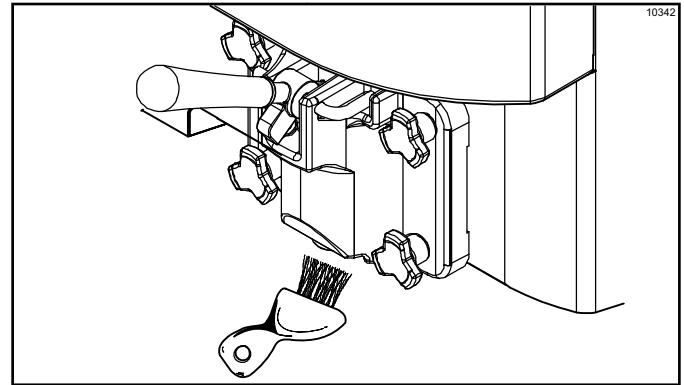

Figure 6-47
2. Return to the freezer with a small amount of sanitizing solution. Dip the door-spout brush into the sanitizing solution and brush-clean the door spout(s) and bottom of the draw valve(s). (See Figure 6-47.)